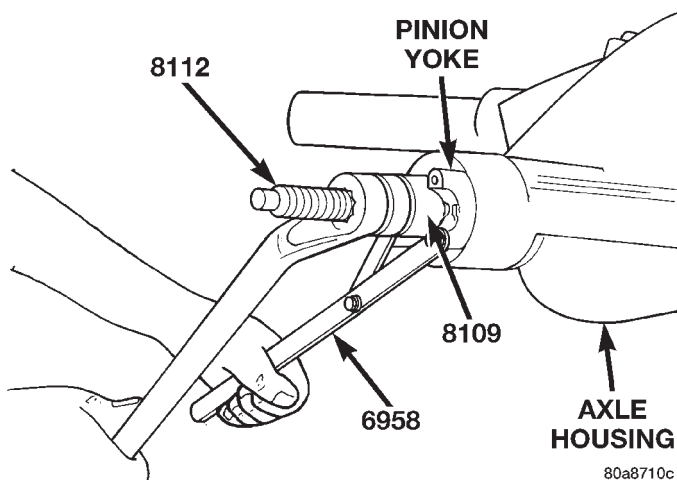

Fig. 20 Pinion Yoke Installation
(5) Install yoke with Screw 8112, Cup 8109, and Holder 6958 (Fig. 20).
(6) If the original pinion bearings are being used, install differential assembly and axle shafts, if necessary.